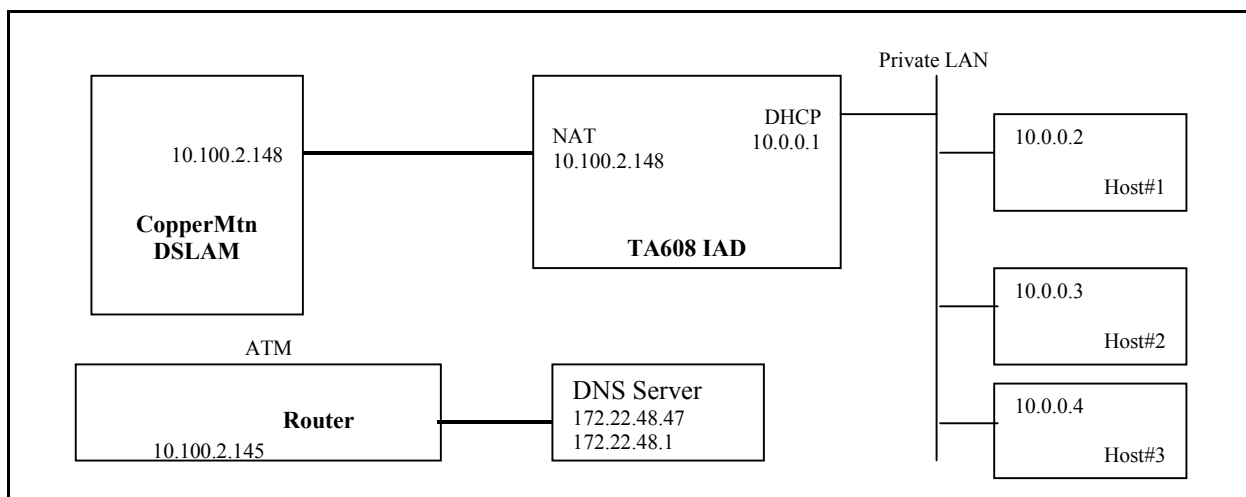

Figure 21. Routing with Copper Mountain
The Total Access 600 allows for complete integration of voice and data delivery from one compact platform. The CopperMountain DSLAM uses Frame Relay instead of ATM as their Layer 2 protocol. Once you have completed the Layer 1 configuration from the previous examples, you must configure the Layer 2 protocol. Refer to Figure 21 on page 297 as you complete the steps below.
4.	On the IP MAP menu, set up the following: Set ACTIVE to YES W/BRIDGE ENCAPSULATION . Set ADDRESS MODE to either USER SPECIFIED or DHCP CLIENT . If DHCP CLIENT is selected, the link addresses will be learned through DHCP (skip to Step 5). Set FAR-END IP ADDRESS to the next hop router on the ATM interface connected to the Copper Mountain for this DSL line (10.100.2.145 in Figure 21). Set IP NETMASK appropriately for this interface. Set LOCAL IP ADDRESS to the Copper Mountain IP address for this line (10.100.2.148 in Figure 21).
9.	<p>On the GLOBAL menu, set up the following:</p> <p>Select IP.</p> <p>Set MODE to ON.</p> <p>Select DHCP SERVER.</p> <p>Set DHCP MODE to ON.</p> <p>From DOMAIN NAMES, set up the following:</p> <p>Set PRIMARY DNS appropriately (172.22.48.47 in Figure 21).</p> <p>Set SECONDARY DNS appropriately (172.22.48.1 in Figure 21).</p> <p>Select BRIDGE.</p> <p>Set MODE to OFF.</p>
10.	<p>Arrow back to the ETHERNET menu, and set up the following:</p> <p>Select IP.</p> <p>Set IP ADDRESS appropriately for your LAN (10.0.0.1 in Figure 21).</p> <p>Set SUBNET MASK appropriately.</p> <p>Set DEFAULT GATEWAY to the ATM router connected to the Copper Mountain (10.100.2.145 in Figure 21).</p>